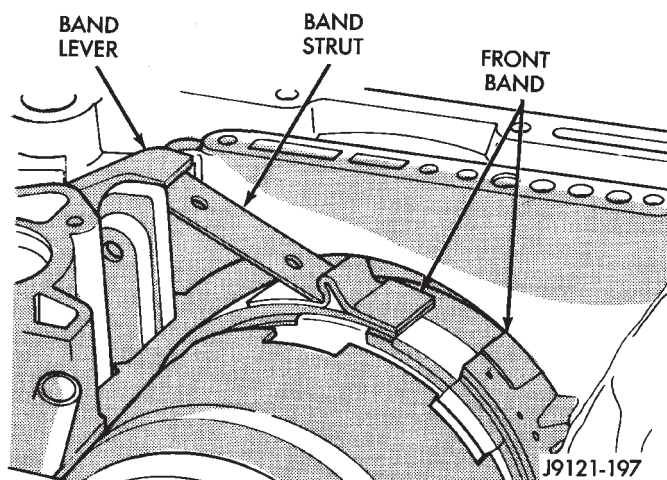
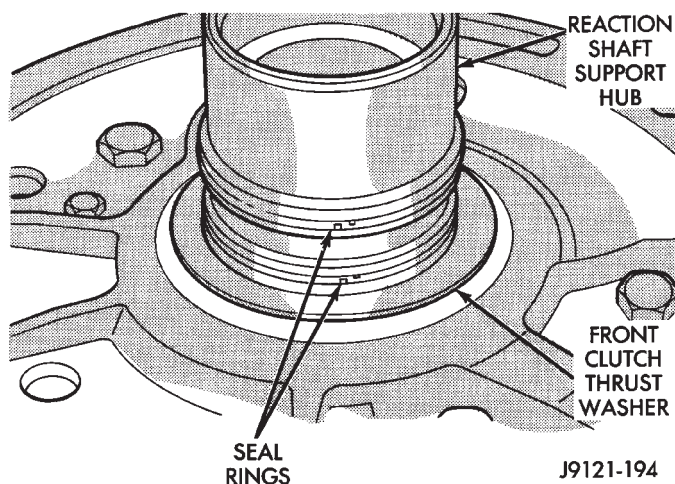

Fig. 105 Front Band Linkage Installation
Fig. 106 Reaction Shaft Support Seal Rings
(33) Engage front band on adjusting screw and hold band in place.
(34) Install strut between band lever and front band (Fig. 105).
(35) Tighten front band adjusting screw until band just grips clutch retainer. Verify that front/rear clutches are still seated before continuing.
(36) Verify that reaction shaft support hub seal rings are hooked together (Fig. 106).